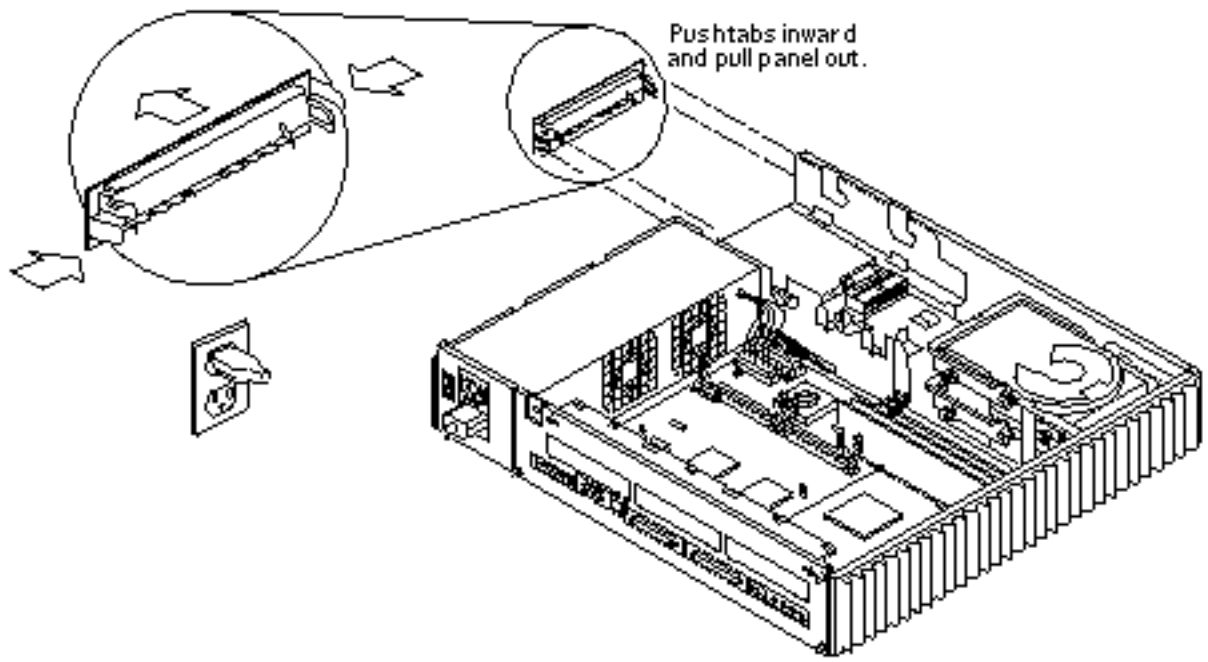

Figure 9-8 Removing the CD-ROM Filler Panel
- 3. If the CD-ROM drive is not installed, remove the CD-ROM filler panel as shown in Figure 9-8. If the CD-ROM drive is installed, remove it.**
4. Remove the diskette drive filler panel (if present) in the same way as you remove the CD-ROM filler panel, as shown in Figure 9-8. If the diskette drive is installed, push the diskette drive toward the center of the chassis to disengage it.
See Figure 9-8. If you need to install the CD-ROM drive, see “Replacing the CD-ROM Drive” on page 72.